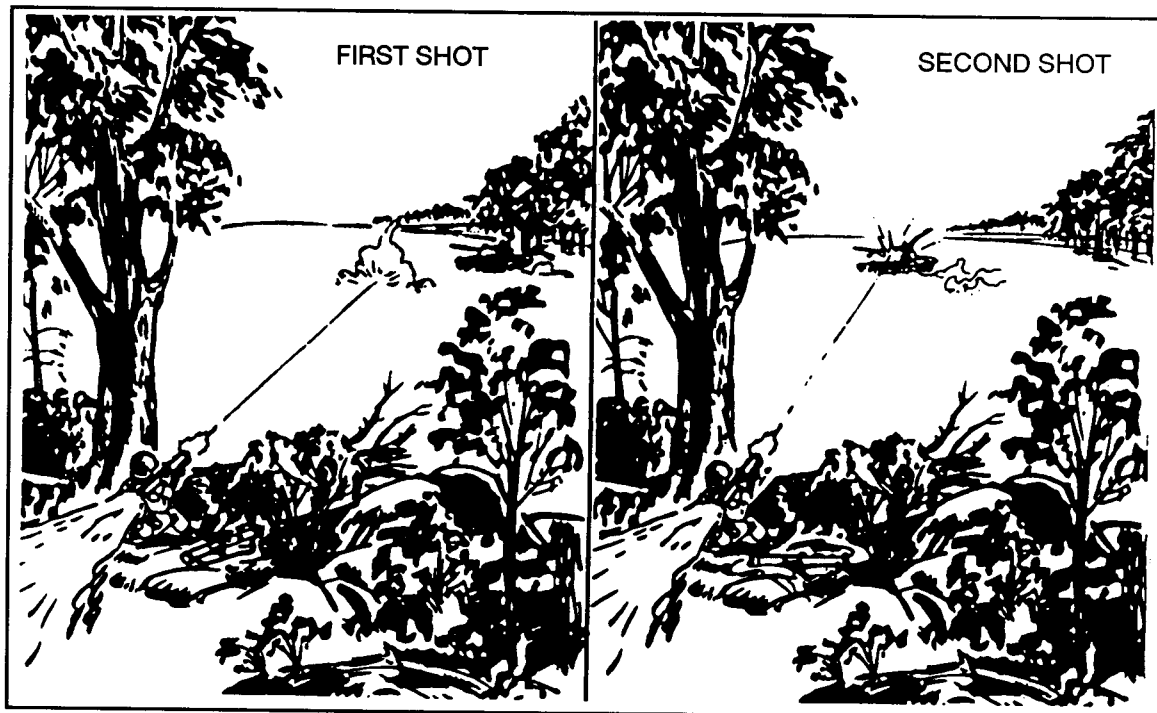

Figure 6-5. Sequence firing.
b. **Sequence Firing.** A single firer, equipped with two or more light anti armor weapons prepared for firing, engages the target. After engaging with the first round and observing the impact, the firer adjusts his point of aim, engages with another round, and so on until he destroys the target or runs out of rounds (Figure 6-5).